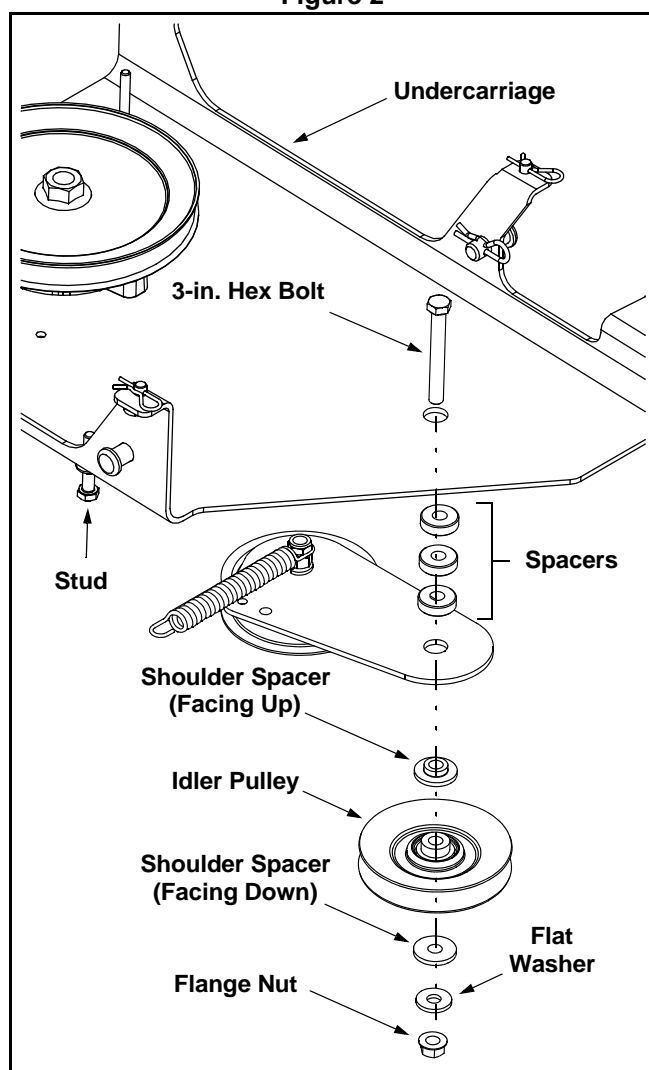

Figure 3
- Reassemble with the 3-inch hex bolt on top of the undercarriage and the flange nut securing the pulley from the bottom. See Figure 3.
**IMPORTANT:** Components must be reassembled in the **exact** order illustrated in Figure 3.
**NOTE:** If the spring's end should come off the stud (See Figure 3) during reassembly of the pulley and hardware, simply reattach it after you've tightened the flange nut.